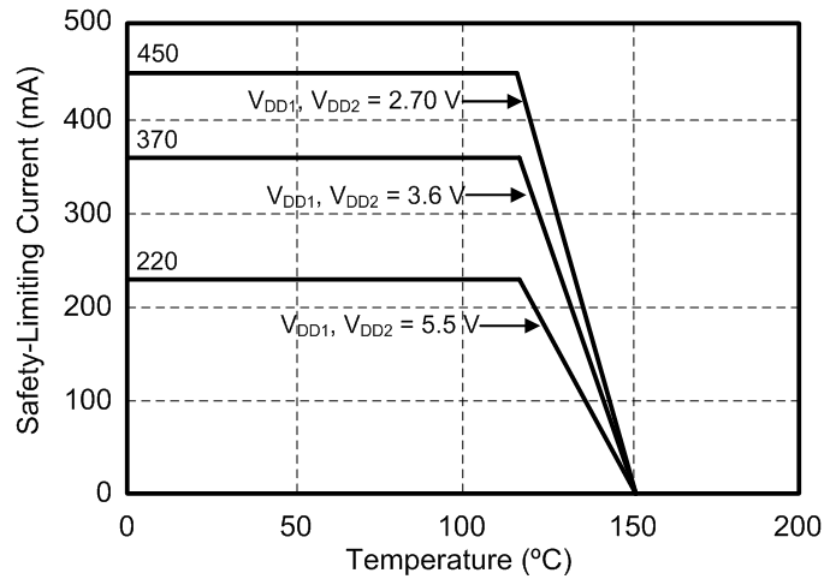
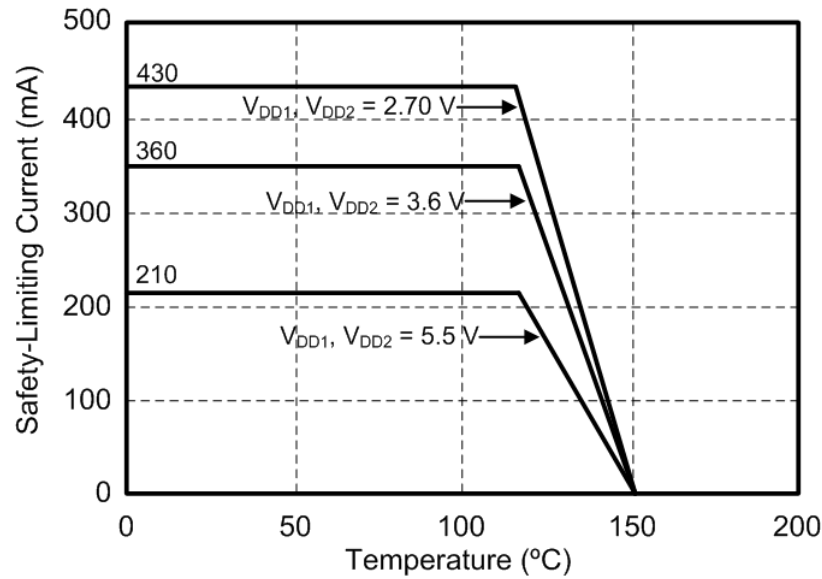

Figure 4.4. (WB SOIC-16) Thermal Derating Curve, Dependence of Safety Limiting Values with Case Temperature per VDE 0884-10
Figure 4.5. (NB SOIC-16, QSOP-16) Thermal Derating Curve, Dependence of Safety Limiting Values with Case Temperature per VDE 0884-10
- Maximum value allowed in the event of a failure; also see the thermal derating curve in [Figure 4.4 \(WB SOIC-16\) Thermal Derating Curve, Dependence of Safety Limiting Values with Case Temperature per VDE 0884-10 on page 27](#) and [Figure 4.5 \(NB SOIC-16, QSOP-16\) Thermal Derating Curve, Dependence of Safety Limiting Values with Case Temperature per VDE 0884-10 on page 27](#).